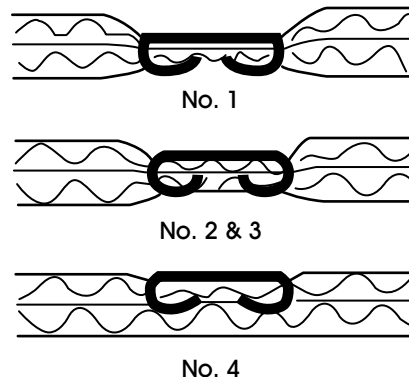

Figure 10
4. If set at No. 1 the teeth are at their deepest penetration. (See Figure 10)